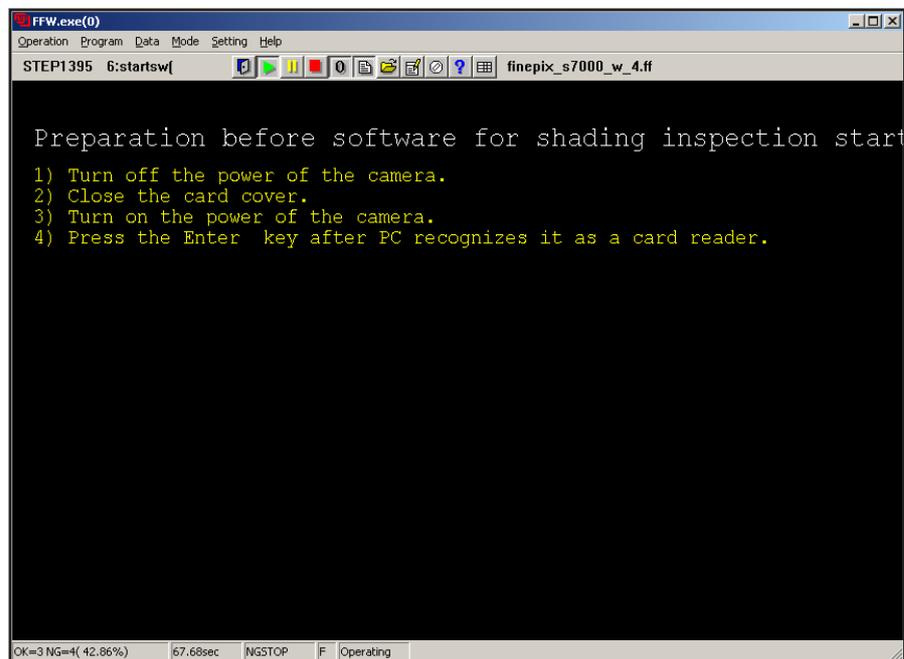

Fig.47
---> The [Shading check preparation Screen (Fig.47)] is appears.
Following the on-screen instructions in the [Shading check preparation Screen (Fig.47)] :